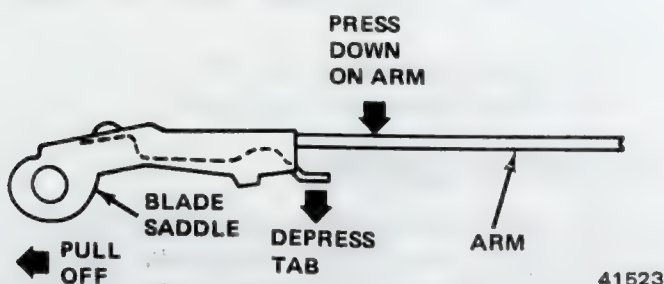

Fig. 3T-19 Wiper Blade Replacement
(1) Press down on arm to unlatch top stud (fig. 3T-19).